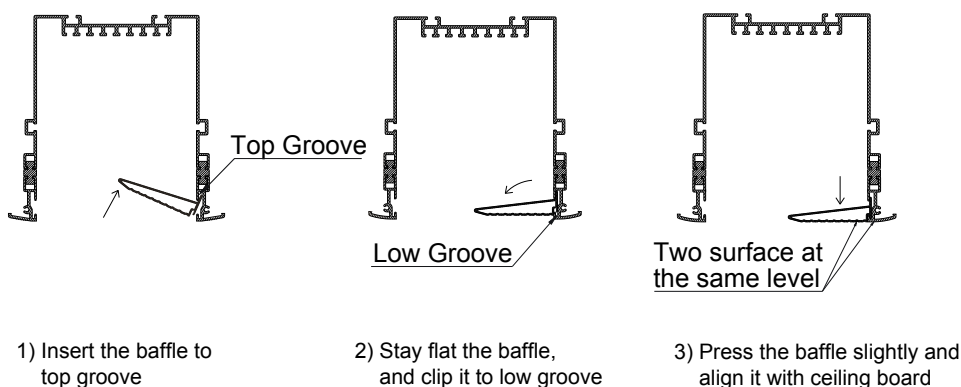

Figure 23
- 2) Install the baffle (figure 23).